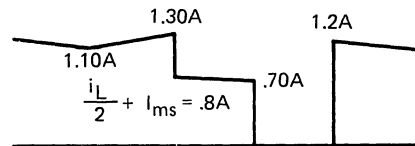

Figure 1e. Load Current in I_{D1}.
1. Information concerning the magnitude of the imbalance of the flux can be derived by examining the current in the rectifier diodes (Figures 1e and 1f) during the dead-band period.